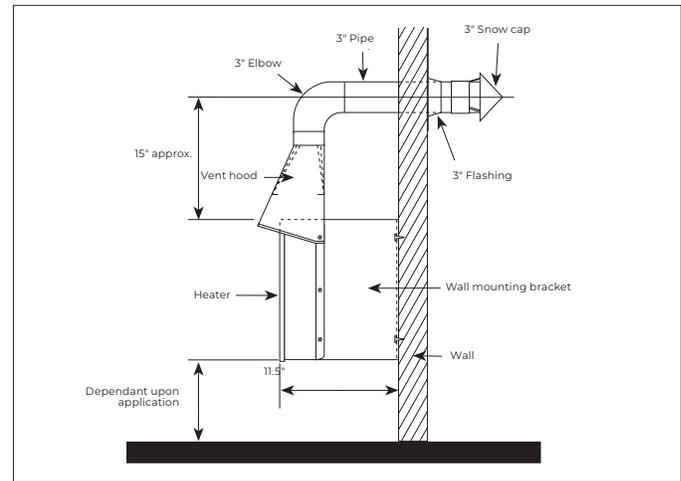

Figure 4 – Ventilation from unit
3. Ground connections for 120V and higher voltage units are required as indicated in Figures 4 and 5, page 5.
4. The number of terminals in the junction box can be two or four depending on the number of elements used in the fabrication of the unit. All MDUMKII models incorporate a single element and therefore have only two terminals. The connection procedure for the different combinations is as described in Figures 4 and 5, page 5.
3. To reduce the carbon dioxide and water vapor concentrations in the building, a vent hood assembly can be installed to provide positive ventilation from the unit (Figure 4, page 5).